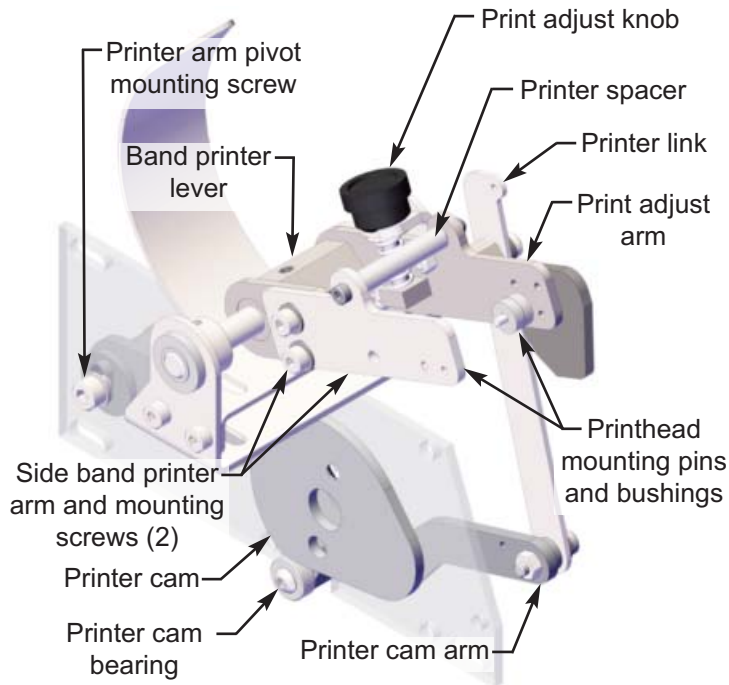

Figure 3.24
W. BANDHEAD REPLACEMENT: Figure 3.24